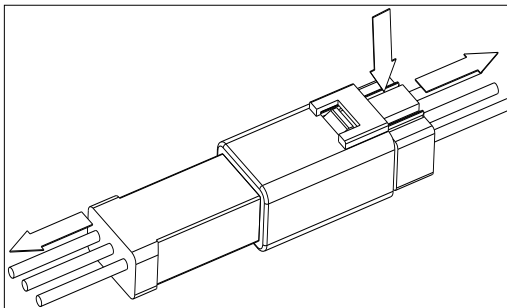

Figure 8-2 Disconnect the watertight cable connector
2. Disconnect the watertight cable connector from cooling fan, as shown in Figure 8-2.